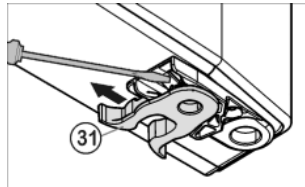

Fig. 9
- ▶ Transfer the spring clamp *Fig. 9 (31)*: Depress the latch nose and pull the spring clamp off over it.